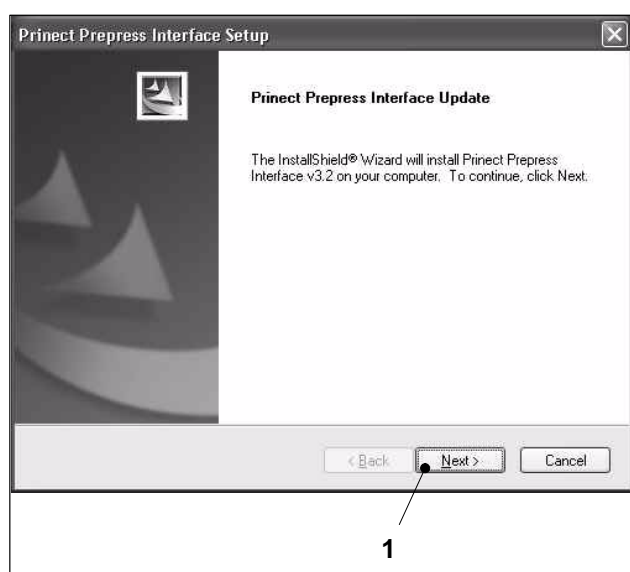

Fig. 21 The Prinect Prepress Interface Update dialog window
If you have activated the Autostart function for your CD-ROM drive, you can skip steps 2 to 4. After a short time the dialog window of the installation program is displayed automatically (Fig. 21).
After a short time the first dialog window of the installation program is displayed automatically (Fig. 21).
5. Click on *Next* (Fig. 21) to continue the installation procedure.